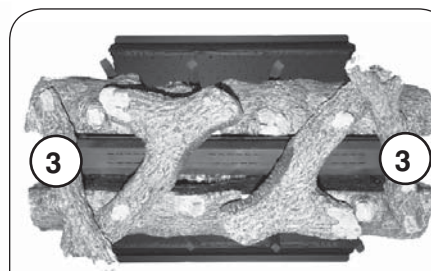

Fig. 20-6
3. Position the two (2) top side logs (Logs #3) over the bottom logs (Logs #1) as shown in Fig. 20-6. Place top log over the matching notch on the bottom log and the other side over the notch on the "Y"-shaped log (Log #2).